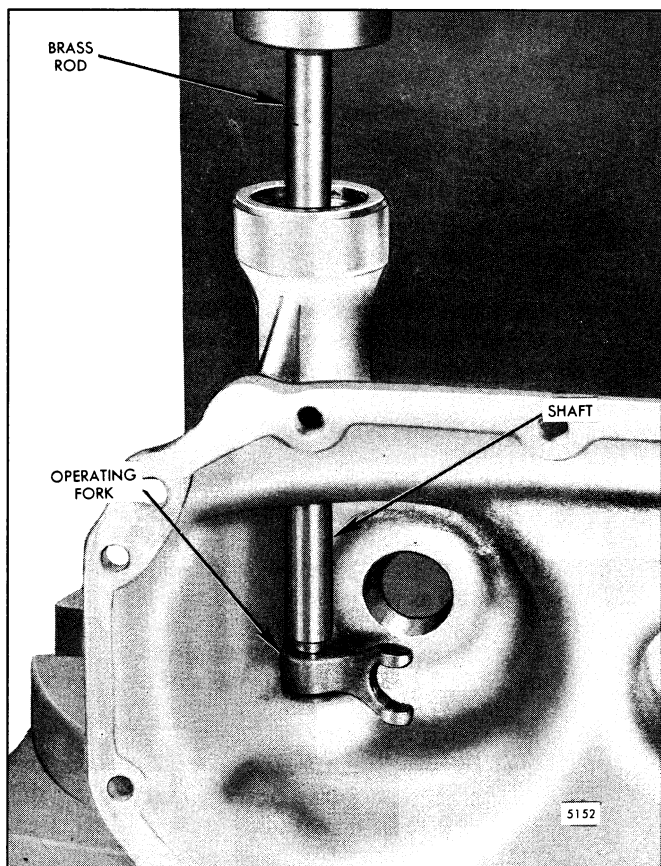

Fig. 14 - Installing Operating Fork and Shaft in Weight Housing
- a. Insert the operating shaft (34) into the housing and slide the operating fork (35) over the end of the operating shaft.
- b. Place the weight housing (50) upright on the bed of an arbor press with the operating shaft parallel and directly under the ram of the press.
- c. Start the operating fork (35) over its seating shoulder on the operating shaft (34).
- d. Lower the operating shaft and fork until the fork is against the housing lower boss and, using a brass rod, press the operating shaft into the fork until the fork bottoms against the shaft shoulder (Fig. 14).